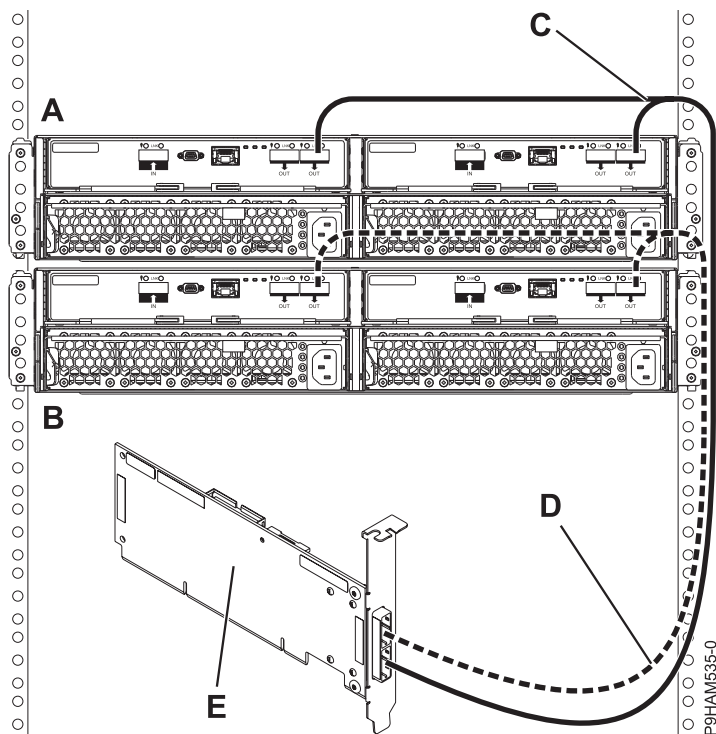

Figure 24. Mode 1 connection of two enclosures by using YO cables to a single SAS adapter
15. Complete a mode 1 connection of two enclosures (**A and B**) by using YO cables (**C and D**) to a single SAS adapter (**E**) as shown in Figure 24 on page 22.